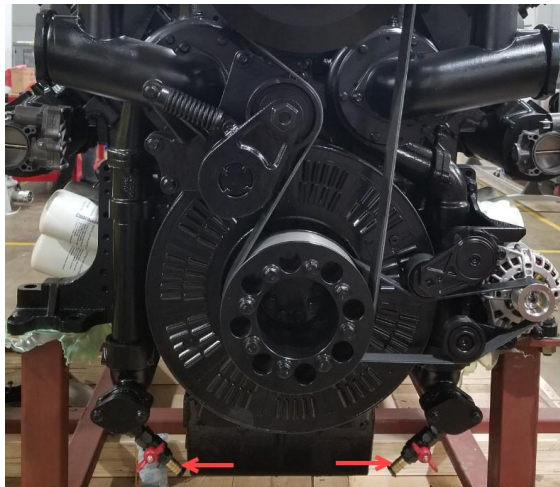

Figure 28
- e) Open coolant drains on both oil coolers (as shown in Figure 28, typical of both sides of engine), and allow the coolant to drain. Close the drains when empty.